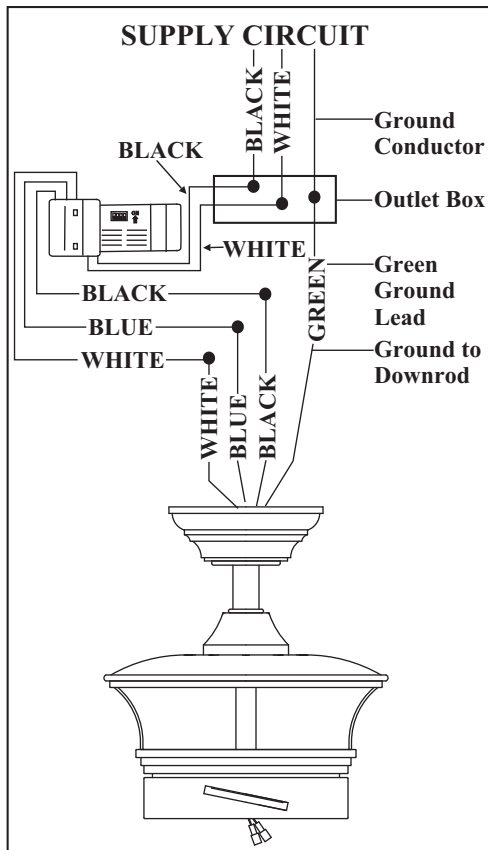

Figure 11
2. (Figure 11) Motor to receiver electrical connections: Connect the black wire from the fan to black wire marked "TO MOTOR L". Connect the white wire from the fan to the white wire marked "TO MOTOR N" from the receiver. Connect the blue wire from the fan to the blue wire marked "For Light" from the receiver. Secure the wire connections with the plastic wire connecting nuts provided.
3. (Figure 11) Receiver to house supply wires electrical connections: Connect the black (hot) wire from the ceiling to the black wire marked "AC in L" from the receiver. Connect the white (neutral) wire from the ceiling to the white wire marked "AC in N" from the receiver. Secure the wire connections with the plastic wire connecting nuts provided.
4. (Figure 11) If your outlet box has a ground wire (green or bare copper) connect it to the fan ground wires; otherwise connect the hanging bracket ground wire to the mounting bracket. Secure the wire connection with a plastic nut provided. After connecting the wires spread them apart so that the green and white wires are on one side of the outlet box and black and blue wires are on the other side. Carefully tuck the wire connections up into the outlet box.